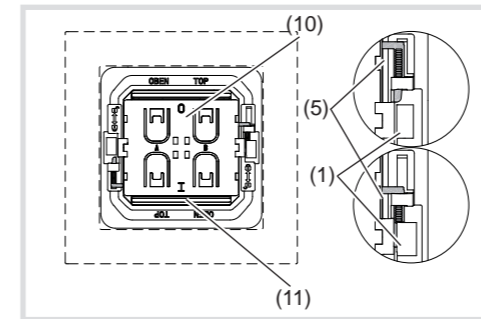

Bild 4: Unlocked and locked radio module
- Push the yellow locking pins (5) on the left and right of the radio module upwards/downwards under the locking spigots (1) up to the stop (Figure 4).
- Place the rocker (4) onto the radio module in the right position and push it on until it engages.